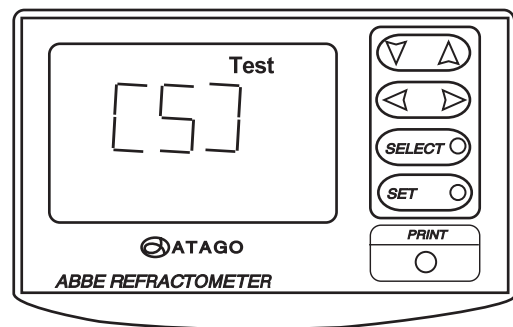

Fig. 11-7
③ Press the SET key. The indication on the display changes as shown in Fig. 11-7.